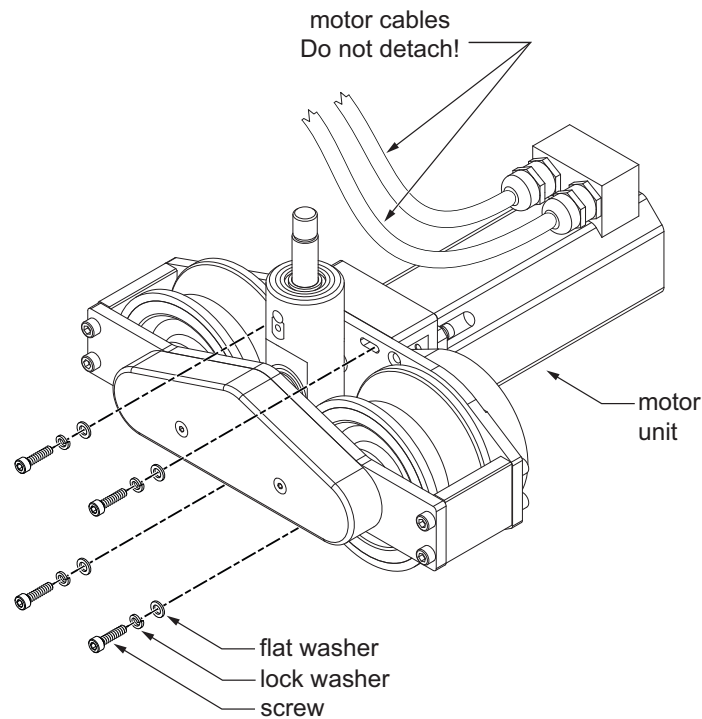

Figure 5 - Removing the Motor Unit from the Drive Wheel Set
1. Use the 4 mm hexagonal wrench to remove the four screws that attach the motor unit to the drive wheel set. Refer to **Figure 5**.